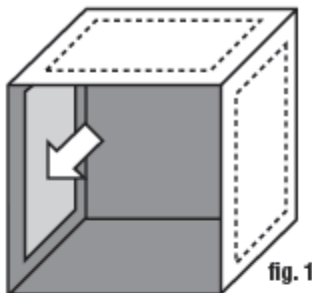

fig. 1
2. Install the 3M™ Vibration Control Tape to the inside of the top and side walls of the housing (fig. 1).